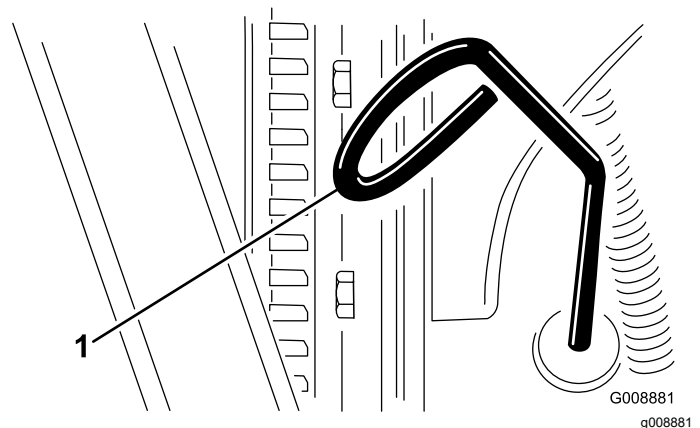

Figure 55
3. Remove the dipstick, wipe it clean, install the dipstick into the tube, and pull it out again. The oil level should be between the FULL and ADD marks (Figure 55).
- If the oil level is low, remove the fill cap and add oil until it is between the FULL and ADD marks (Figure 55).